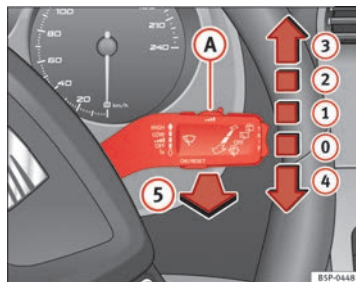

Fig. 83 Windscreen wiper and windscreen wash lever
The windscreen wiper lever ⇒ Fig. 83 has the following positions:
- The next speed down will automatically be selected if speed ⇒ Fig. 83 ② or ③ is selected when the vehicle stops. The set speed will be resumed when the vehicle starts again